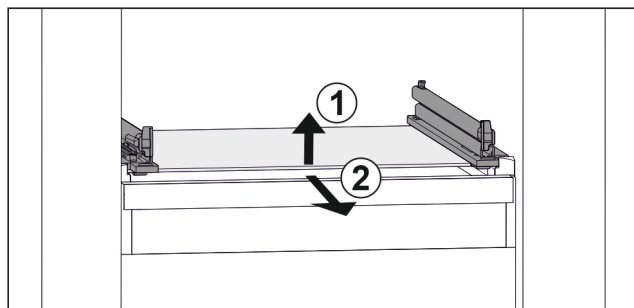

Fig. 82 Example illustration of glass shelf
- Lift glass shelf at the front. Fig. 82 (1)
- Take out glass shelf to the front. Fig. 82 (2)